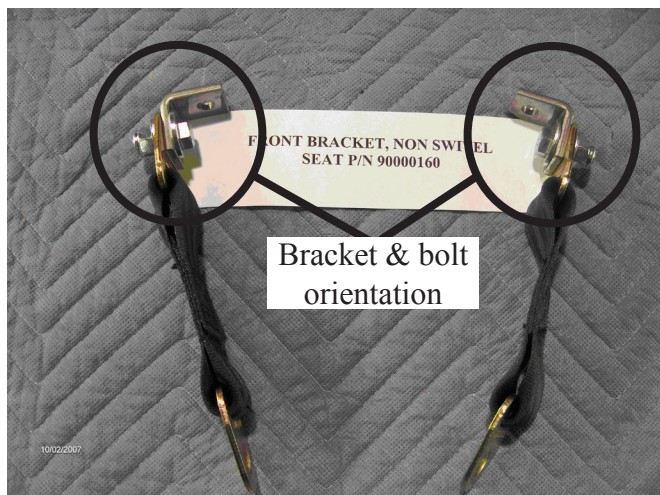

Figure 2
3. Assemble the brackets (P/N 90000160) to the tethers with the 3/8" bolt head to the inside (*Figure 2*).